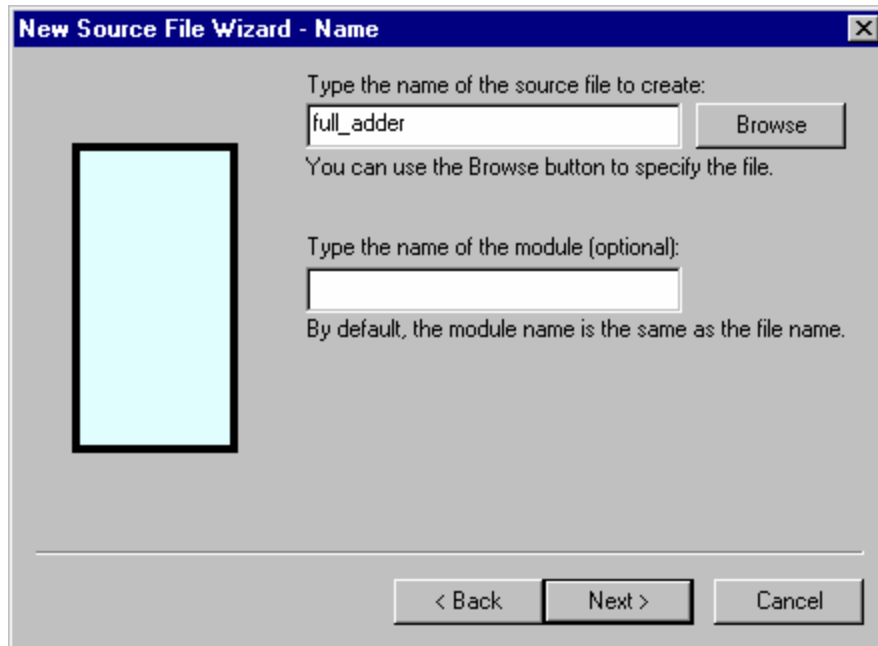

Figure 8
1. Double-click the “Add New File” option in the Design Browser (Figure 8). This will open the Add New File window.
5. In the “Type the name of the source file to create” field, enter the name of your schematic design. Use **descriptive** names. Do not use the same name that you named your design or workspace. Also, **do not use a different name for the module**; leave this field blank. Active-HDL will use the source files name for the module by default. Click the Next button. (See Figure 8)